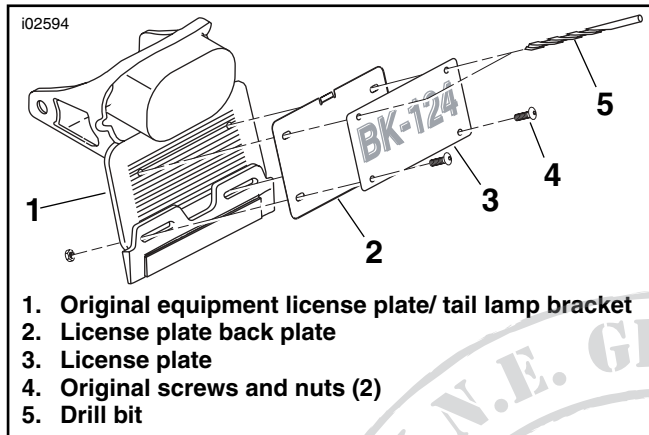

Figure 3. Drill License Bracket Mounting Holes (FX Softail and FXDWG Models)
- See Figure 3. Temporarily fasten the bottom of the license-plate back plate (2) and license plate (3) to the OE license-plate/ tail lamp bracket (1) with the screws and nuts (4) removed in Step 1, but do not tighten.